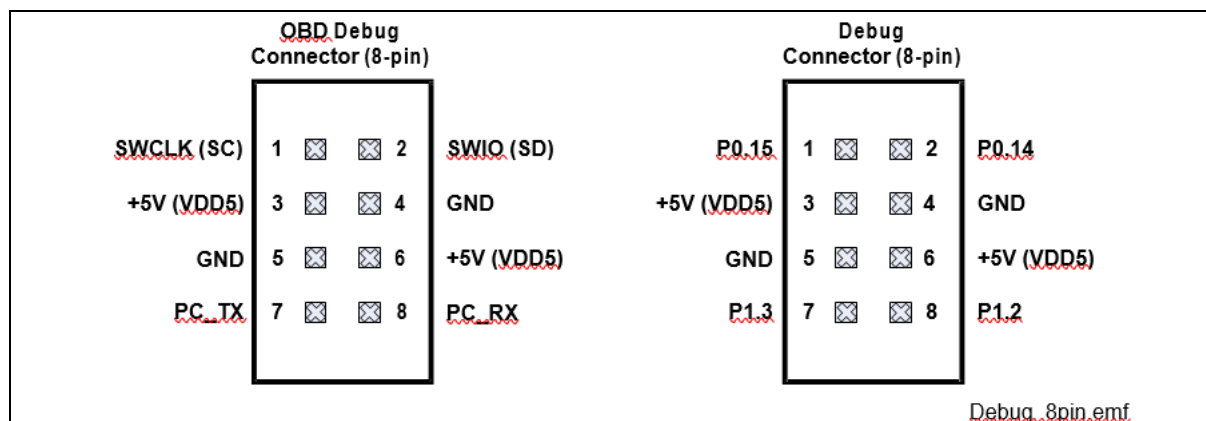

Figure 8 Pin assignment of debug connector (8-pin)
- The KIT_XMC1400_DC_V1 board supports debugging via SWD and SPD with the OBD as described in the On-board USB debugger section. The pin assignment is provided in a way that both SWD ports (SWD0 and SWD1) can be selected. See Figure 8 for details on pin assignment.